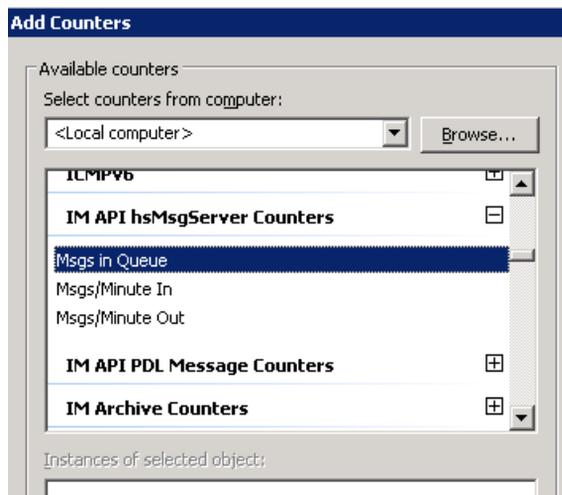

Figure 74. IM API Counters
4. Select the applicable counter category from the Performance Object menu, Figure 74 (IM API Counters, IM Archive Counters, IM Collection Counters, or IM Storage Counters).